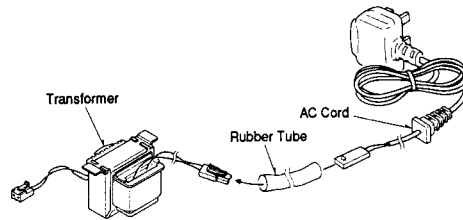

Figure 43
(1) Connect AC cord with transformer as shown in Figure 43.